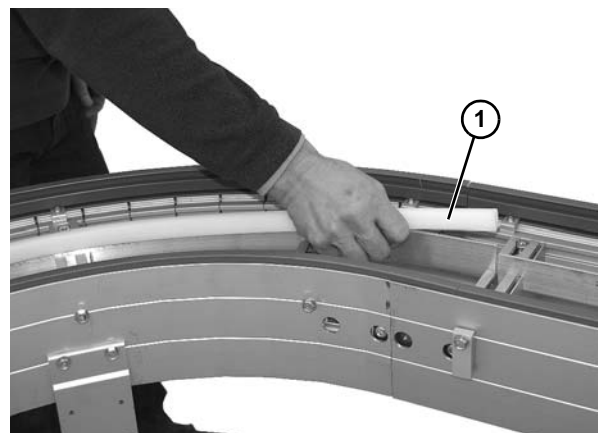

Figure 41
2. Remove top clip-on wear strips (**Figure 41, item 1**).